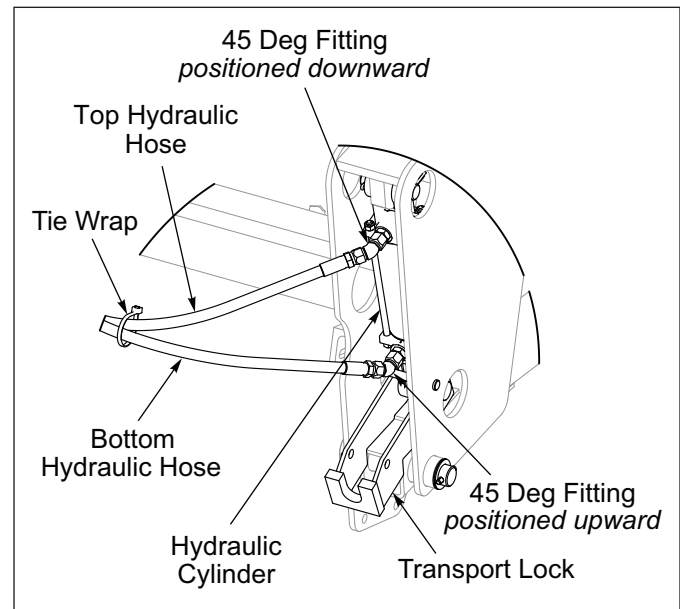

Figure 2-14: Cylinder Fittings Positioning
1. Restrictors installed in Cylinder Ports, connect 45 Degree Fitting so they are free to swivel. Connect top Hydraulic Hose to the Cylinder Base and bottom Hydraulic Hose to the Cylinder Rod End. Position the Hydraulic Hoses so that the Cylinder Base End points downward and the Cylinder Rod End points upward. Merge Hydraulic Hoses together and Tie Wrap them together about 12 inches from the Hose End. **See Figure 2-14.** Be sure that the Hoses cannot sag and make contact with the Front Roller Wheels.